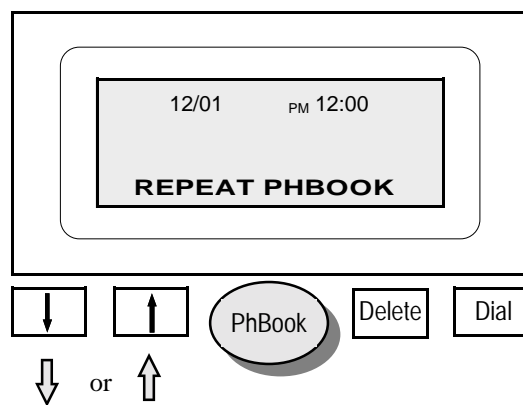

Figure 3
3. The LCD screen will display **“REPEAT PHBOOK”** (figure 3).